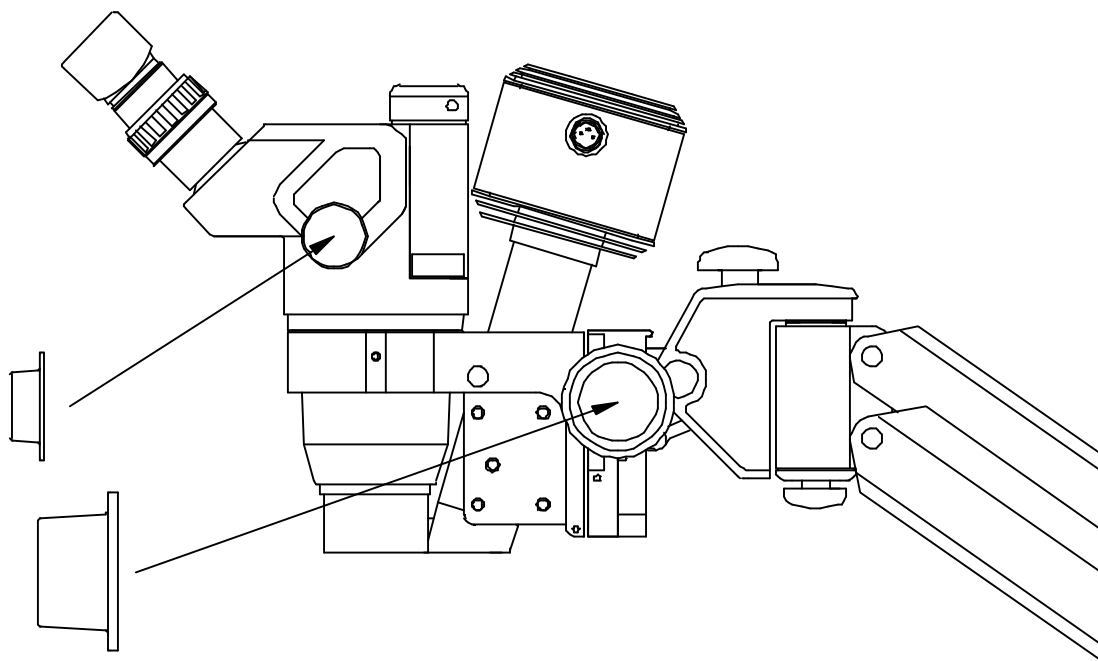

Figure 9 Inserting the Focus and Zoom Control Covers
13. Remove two (large) focus control covers and two (small) zoom control covers from the bag inside the case. Push them into position on to the focus control knobs and zoom control knobs respectively (see figure 9).